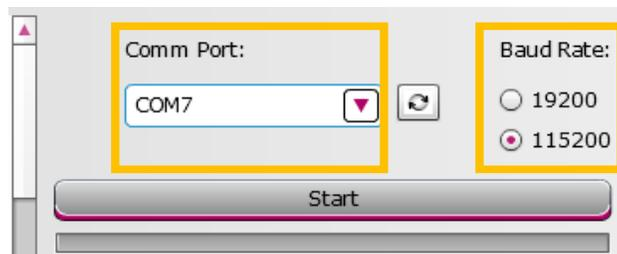

Figure 1.6
4. Select the Baud Rate - 115000 (Fast mode) or 19200 (Slow mode) (see figure 1.6)
5. Select the correct com port. (see figure 1.6)